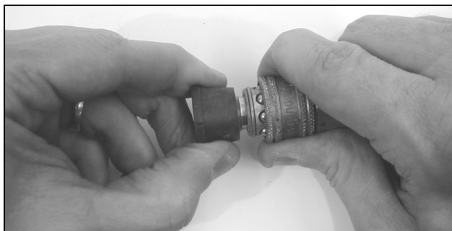

Figure 16 - Quick Connect Tip
- 3b. For units with quick connect tips: use the black 65° quick connect spray tip (See Figure 16).